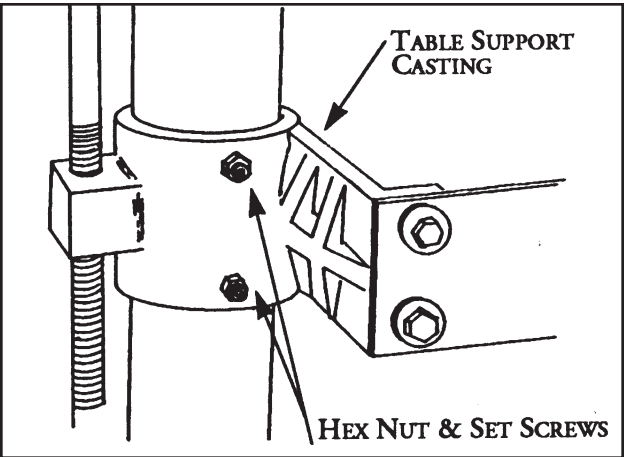

Fig. 3 Table support casting and set screws.
2. Loosen the hex nuts and set screws on the table support castings (Fig. 3) and on the motor support casting (Fig. 5 – #7). The set screws on the table support castings have been tightened at the factory to eliminate free-play between the castings and the column tube during shipment. There are two table support castings on the SuperBrush, one each for the right and left column tubes, and one motor support casting, all with set screws.